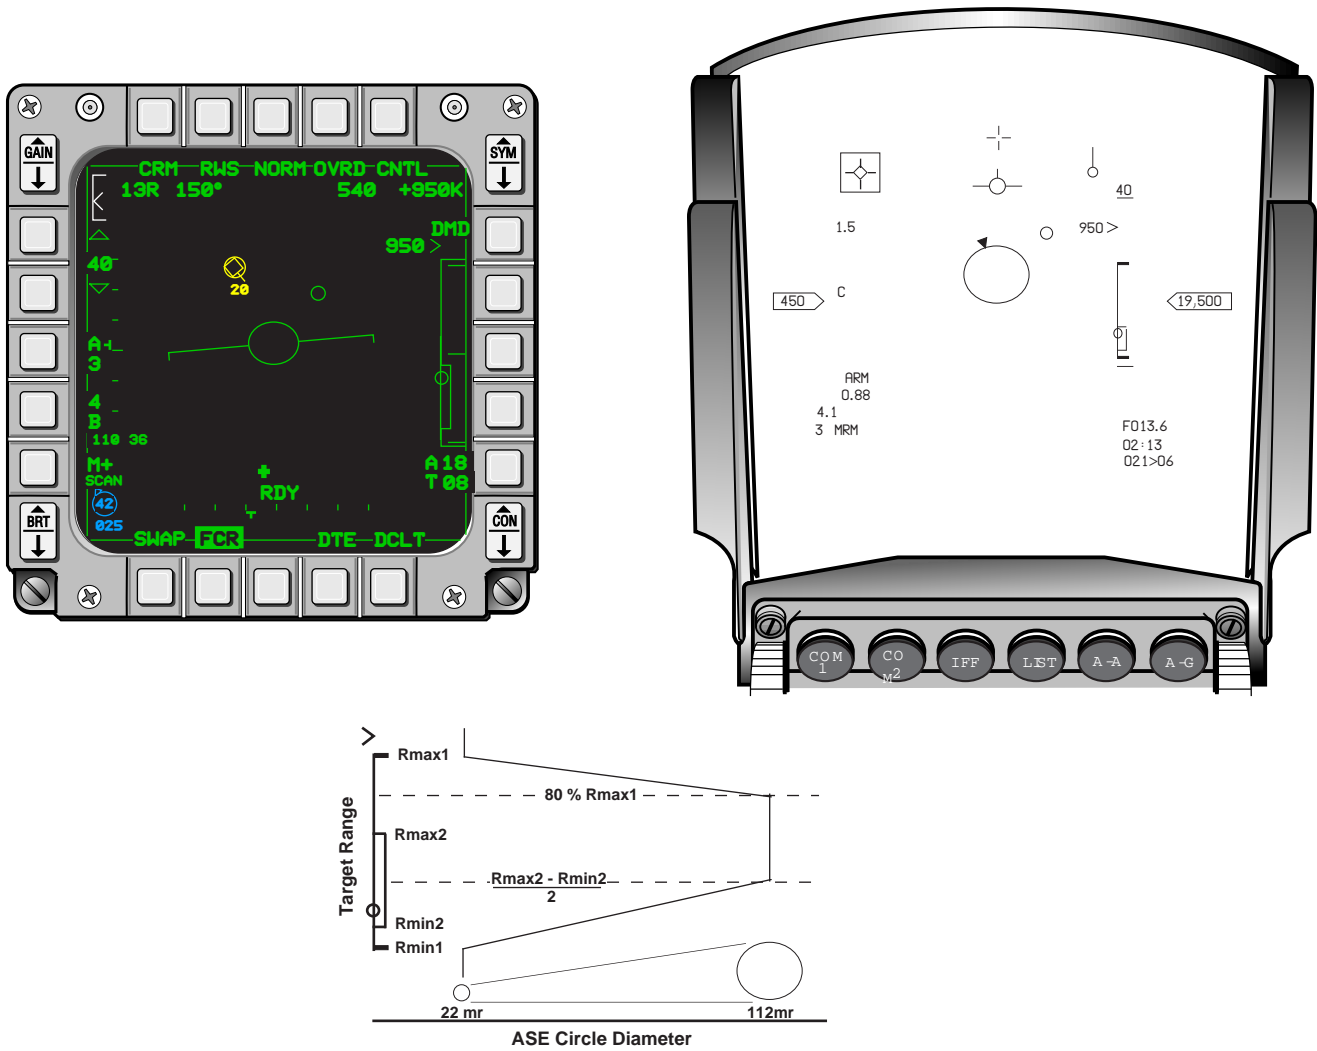

Figure 4-7 ASE Circle Size Based on MLE
- **Allowable Steering Error Circle.** The ASE circle, displayed on the HUD and MFD, expands and contracts ("breathes") to allow the pilot to quickly assess the air-to-air situation in relation to optimum shot conditions. Two limits are used to determine a good missile shot. First, the missile must be pointed within line-of-sight to the target and, second, the predicted impact point must be within the kinematic range of the missile. The ASE circle will be set to its minimum size and remain fixed when: 1) the target range is greater than R_{max1} and a heading change cannot bring the target in range or 2) the target range is less than R_{min1} . The size of the "breathing" ASE circle is based on missile kinematics and LOS limits when the target's range is less than R_{max1} but greater than R_{min1} or when the target can be brought into R_{max1} by a heading change. The size of the breathing ASE circle is smallest at R_{max1} and R_{min1} . It grows to its largest size by 80% R_{max1} and begins shrinking back to its smallest size in the middle of the no-escape zone. Figure 4-7 shows the relationship between the MLE and the breathing ASE circle.